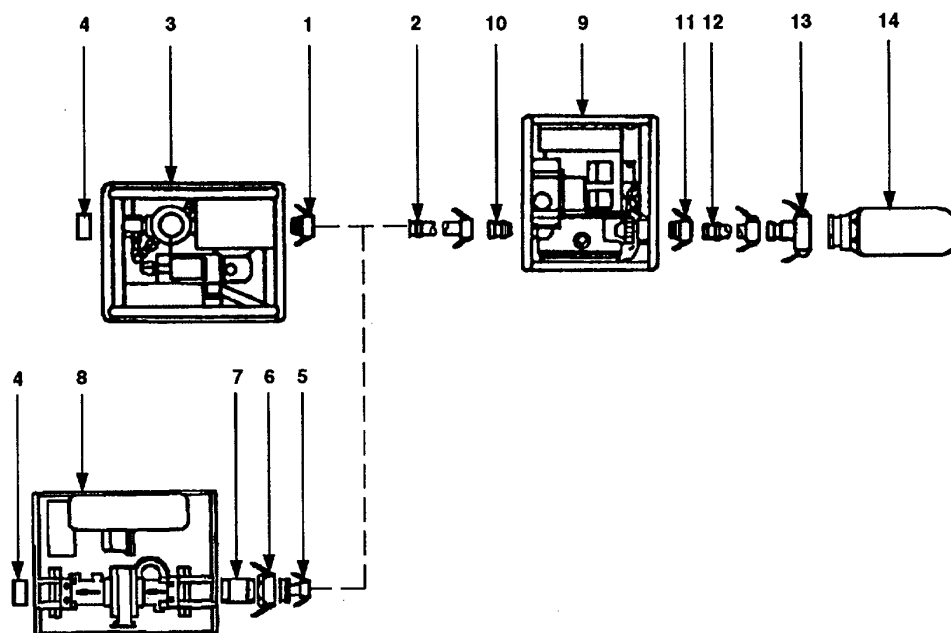

Figure 2-79. Removal of 125 GPM Pumping Assembly and Hypochlorination Unit.
- ae. Push cam arms on inlet port female quick-disconnect coupling half (Figure 2-79, 1) forward to open. Remove hose assembly (2) from female quick-disconnect coupling half (1) on inlet port of hypochlorination unit (3).
- af. Remove female quick-disconnect coupling half (1) from hypochlorination unit (3) inlet port.
- ag. Push cam arms on inlet port reducer (5) forward to open. Remove hose assembly (2) from reducer (5).
- ah. Push cam arms on female quick-disconnect coupling half (6) forward to open." "Remove reducer (5) from female quick-disconnect coupling half (6).
- ai. Remove female quick-disconnect coupling half (6) from nipple (7).
- aj. Remove nipple (7) from hypochlorination unit (8).
- ak. Install plastic dust caps (4) on hypochlorination unit (3) inlet and outlet" "ports.
- al. Refer to applicable technical manual and restart 125 GPM pumping assembly (9).
- am. Drain storage tank as much as possible. When storage tank is drained, refer" "to applicable technical manual and shut down 125 GPM pumping assembly (9)." "Continue disconnecting distribution point.
- an. Push cam arms on hose assembly (2) forward to open. Remove hose from male" "quick-disconnect coupling half (10) on outlet port of 125 GPM pumping assembly" "(9).